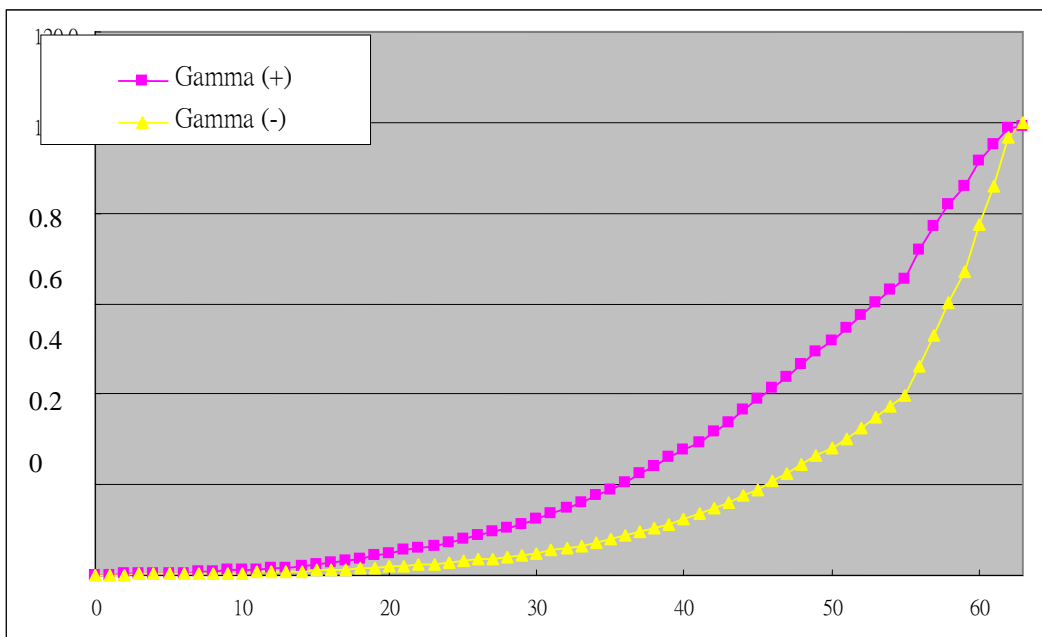

Figure 3-7 Gamma Curve of Unmatched Positive and Negative Frame
- Ideally both gamma curves of the positive and negative frame should be the same if the gray scale voltage is matched. If they are mismatched, the gamma curves are different as shown in Figure 3-7.